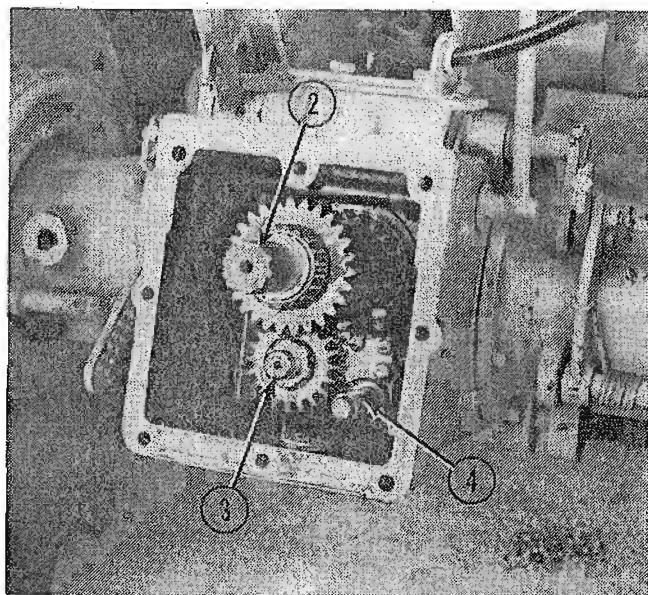

FIG. 2 .
Figure 2 shows the rear differential case with the cover removed and the
1. Rear pinion drive shaft in position (2, Fig. 2)
2. The PTO final drive shaft in position (3, Fig. 2)
3. The ground drive PTO shifter and drive gear in place (4, Fig. 2).